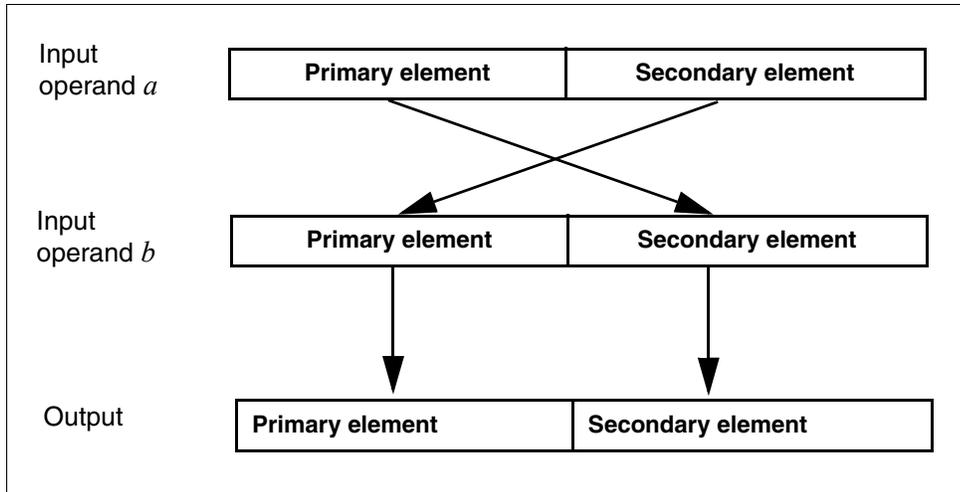

Figure 4-2 Cross operations
*Cross operations* perform SIMD computations on the opposite primary and secondary elements of one or more input operands. They store the results in the corresponding elements in the output. As an example, Figure 4-2 illustrates how a cross multiply operation is performed.